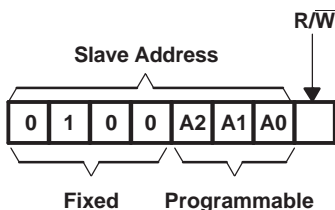
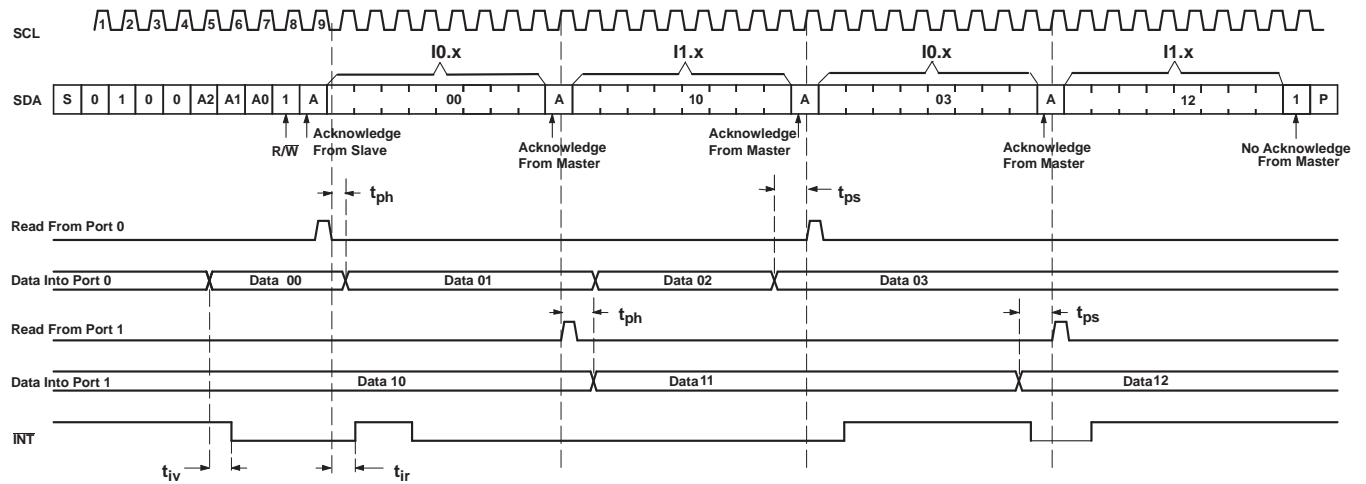

Figure 22. Pca9535 Address
**Figure 26. Read From Register**
Figure 22 shows the address byte of the PCA9535.
Data is transmitted to the PCA9535 by sending the device address and setting the least-significant bit to a logic 0 (see Figure 22 for device address). The command byte is sent after the address and determines which register receives the data that follows the command byte.
The bus master first must send the PCA9535 address with the least-significant bit set to a logic 0 (see Figure 22 for device address). The command byte is sent after the address and determines which register is accessed. After a restart, the device address is sent again, but this time, the least-significant bit is set to a logic 1. Data from the register defined by the command byte then is sent by the PCA9535 (see Figure 26 through Figure 28).
- B. This figure eliminates the command byte transfer, a restart, and slave address call between the initial slave address call and actual data transfer from P port (see Figure 26 for these details).